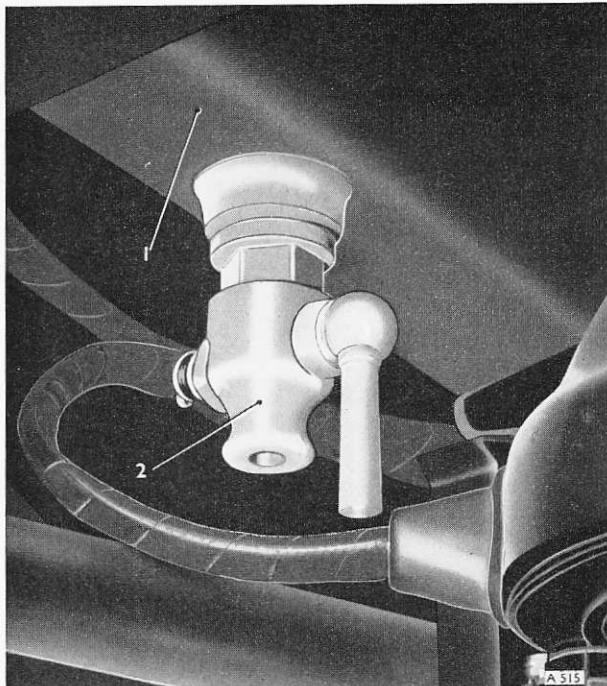

Fig. L1 Radiator drain tap—S1 cars
**On S1 cars** two drain taps are provided, one tap is fitted to the radiator bottom tank and the other to the cylinder block (see Figs. L1 and L2).